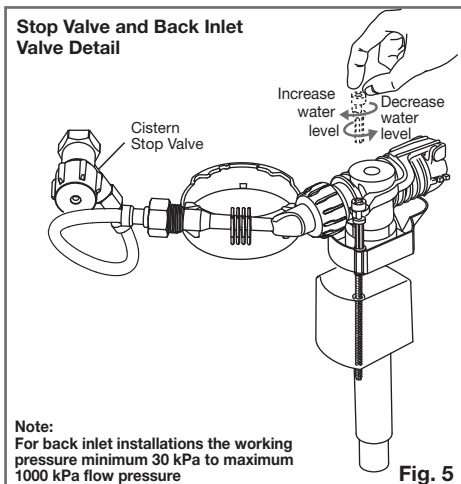

Fig. 5
- 4- Fit Cistern Stop Valve (supplied) to the 1/2" B.S.P. nipple in the wall using approved thread seal, in the downward angled position 45° to the right hand side, as detailed in **Fig. 5**.
- 7- Adjust water level to the 4.5 litre water level mark inside the cistern by simply turning the float arm screw in a clockwise or anti-clockwise direction as detailed in **Fig. 5**.